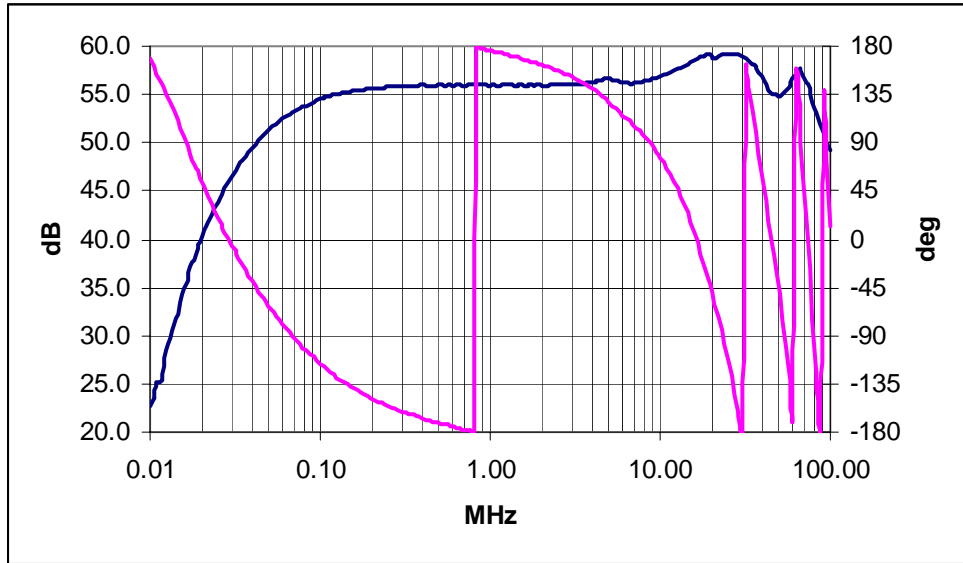

Figure 6 – Amplifier Transfer Function in Low Bias Mode
6.4	Measure the amplifier transfer function in low bias mode (Reference shown in figure 6).